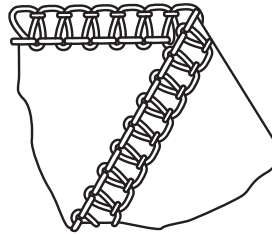

Fig. 1
- (c) Fig. 1 shows a stitch used to sew the label onto a textile product.
Name the stitch shown in Fig. 1.